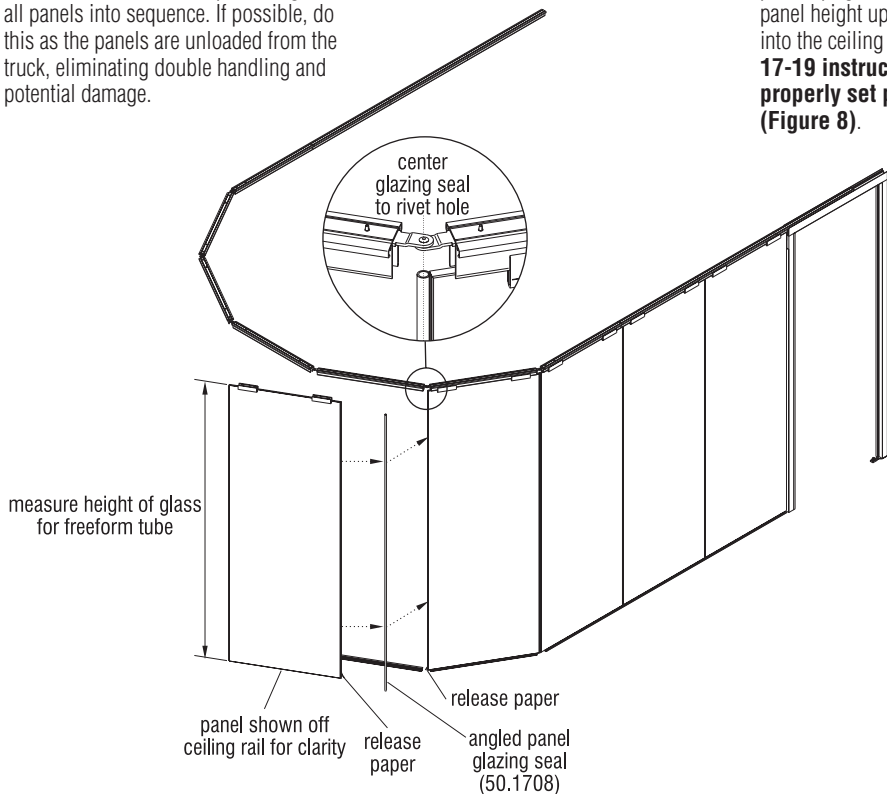

Figure 8 - Panels and Freeform Tube Install
17. With assistance of a second person, using rubber suction disks, position the panel into the ceiling rail first and hold the panel up & plumb to align the top with the installed ceiling rail (Figure 8).
18. With a second person holding the panel upright and secure, adjust the panel height up enough to nest up into the ceiling rail. **Follow pages 17-19 instructions to level and properly set panels in position (Figure 8).**
19. Starting from one end of the curve remove the release paper from the VHB tape on the edge of the Lightline panel (Figure 8).
20. Measure the height of the glass and cut the angled panel glazing seal extrusion (50.1708) to length (Figure 8).
22. Bond the angled panel glazing seal extrusion to the edge of the glass using the rigid seal alignment block. Place the top of the seal extrusion centered on the top edge of the glass and use the block to guide the glazing seal onto the edge of the glass by sliding the block down the edge of the glass (Figure 8).
23. Move this panel so that the center of the glazing seal extrusion is aligned with the rivet in the splice (Figure 8).
25. Pull the second glass panel back about $\frac{1}{4}$ " and remove the release paper from the VHB tape on the edge of the glass panel (Figure 8).